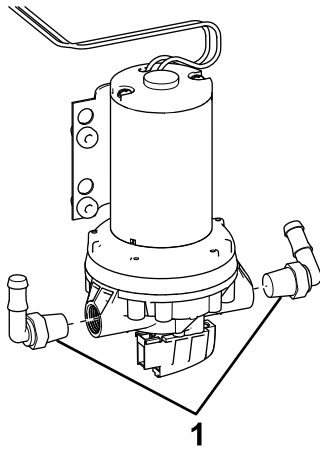

Figure 19
- 10. Install a 90° hose fitting onto both sides of the pump (Figure 19).